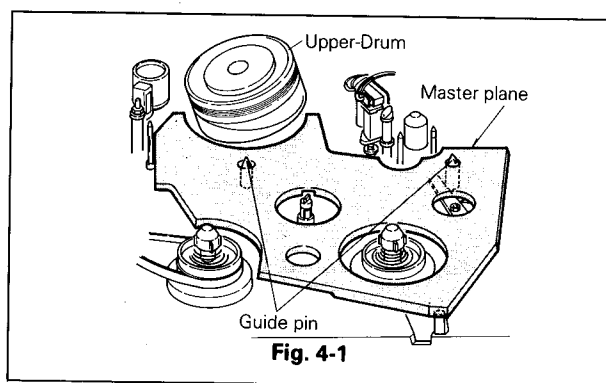

Fig. 4-1
- Ensure that the surface of the transport deck is free from any dust, dirt, or foreign matter and install the master plane jig, as illustrated in Fig. 4-1.